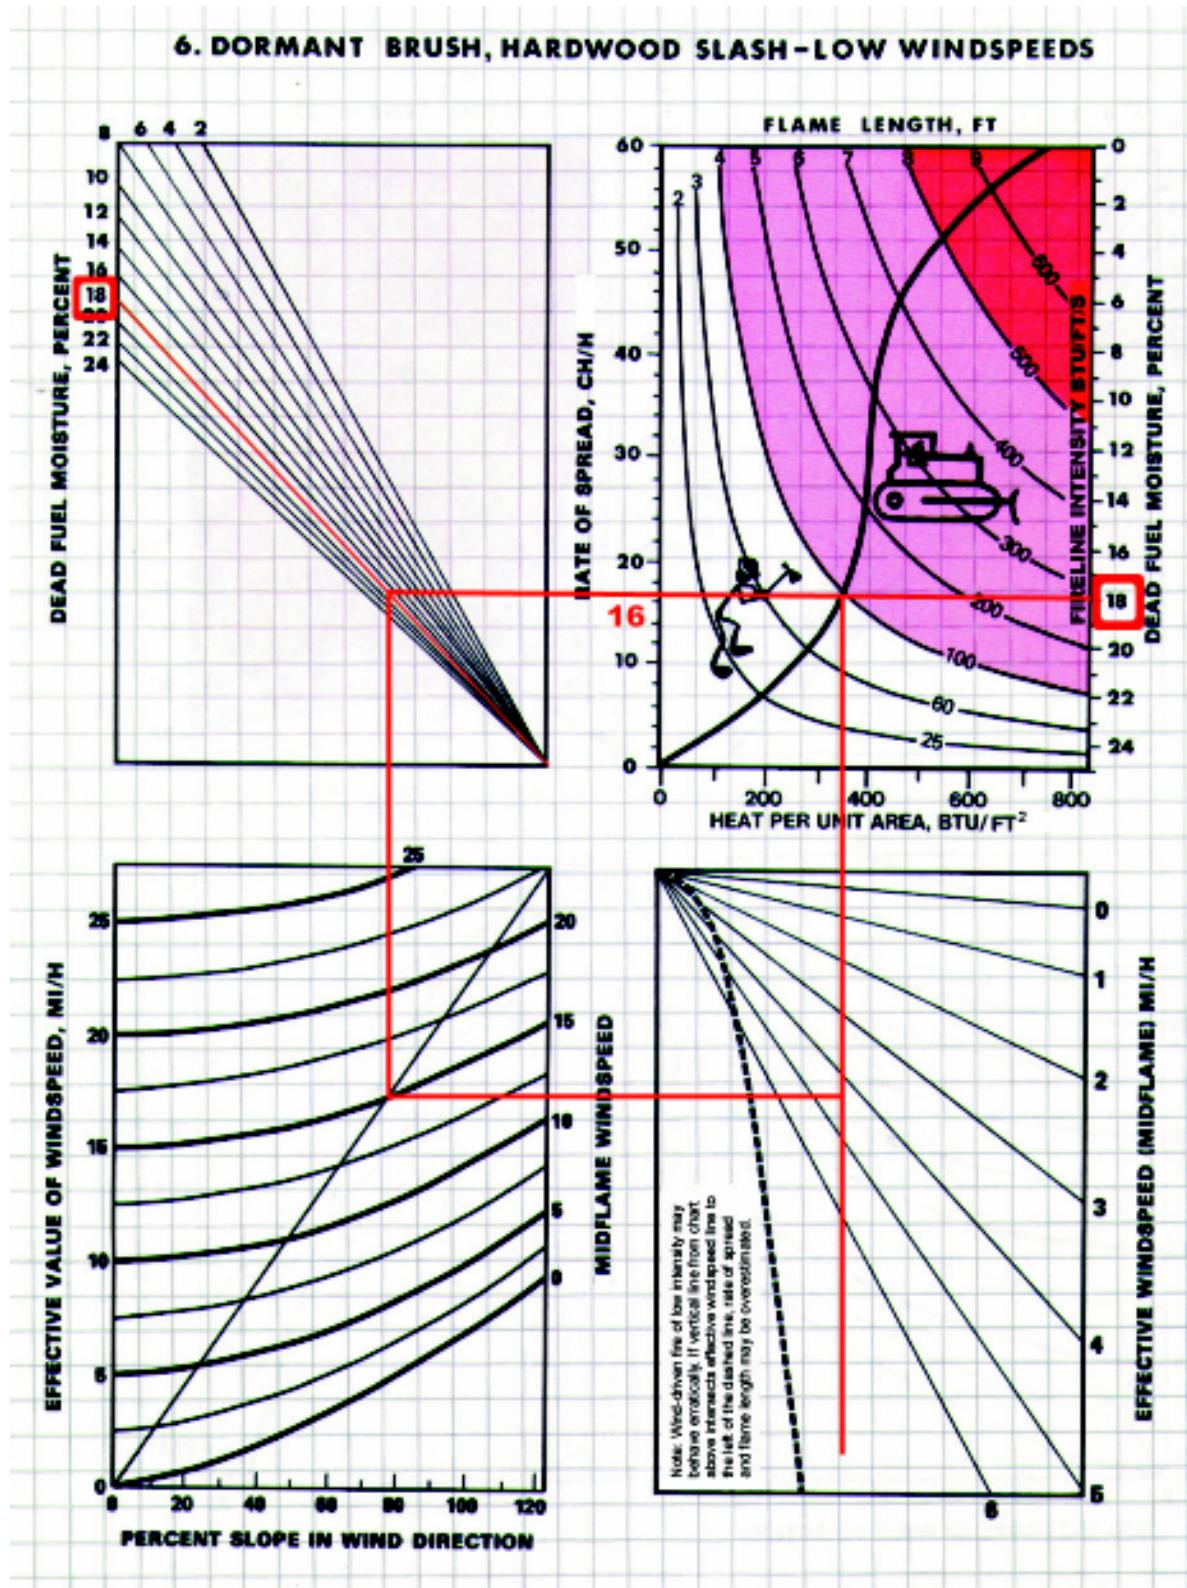

Figure 9.19—Completed nomogram.
- b. A horizontal line is drawn across the upper right quadrant. The intersection at the right axis indicates the fine dead fuel moisture. See figure 9.19.